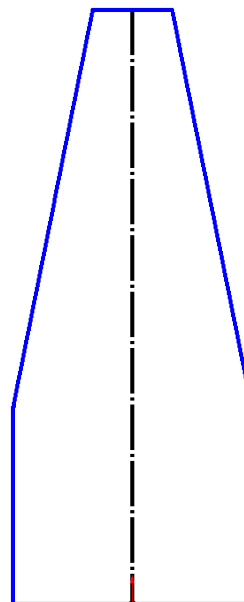

Fig. 4
Step 6. Click **Mirror Entities** on the Sketch toolbar, **Fig. 4**.
**Mirror Entities** on the Sketch toolbar, **Fig. 4**.
Step 7. Click **Smart Dimension** (S) on the Sketch toolbar.